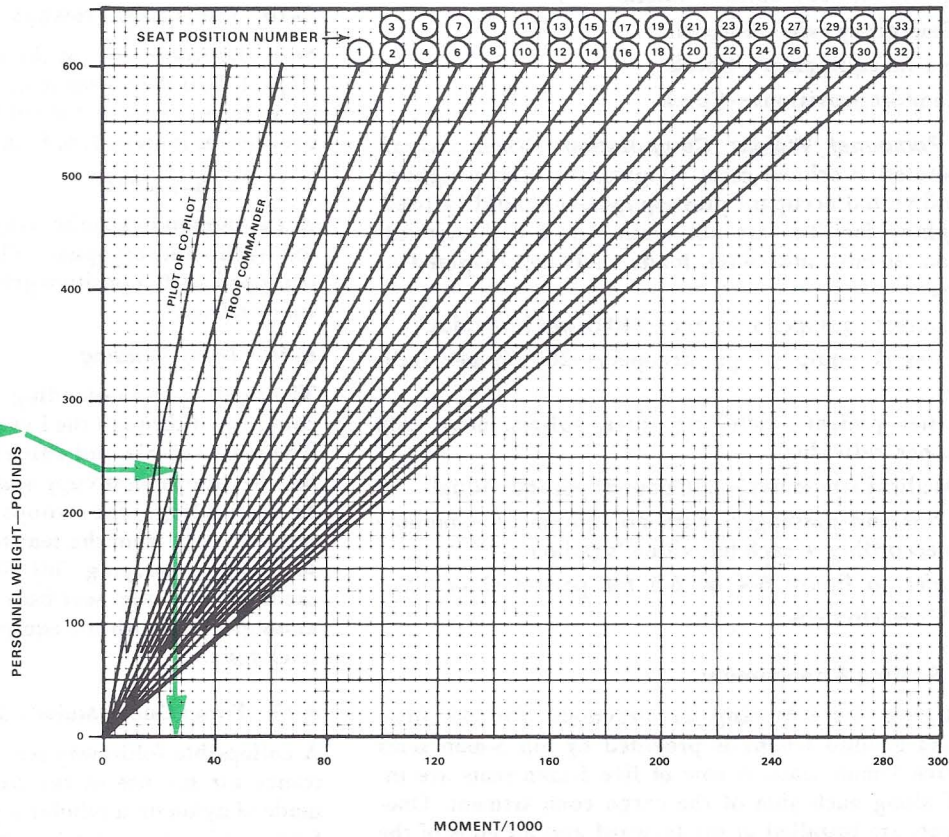

Figure 6-4. Personnel Moments
- f. Refer to figure 6-4 or 6-5 for personnel or litter patient moment data.